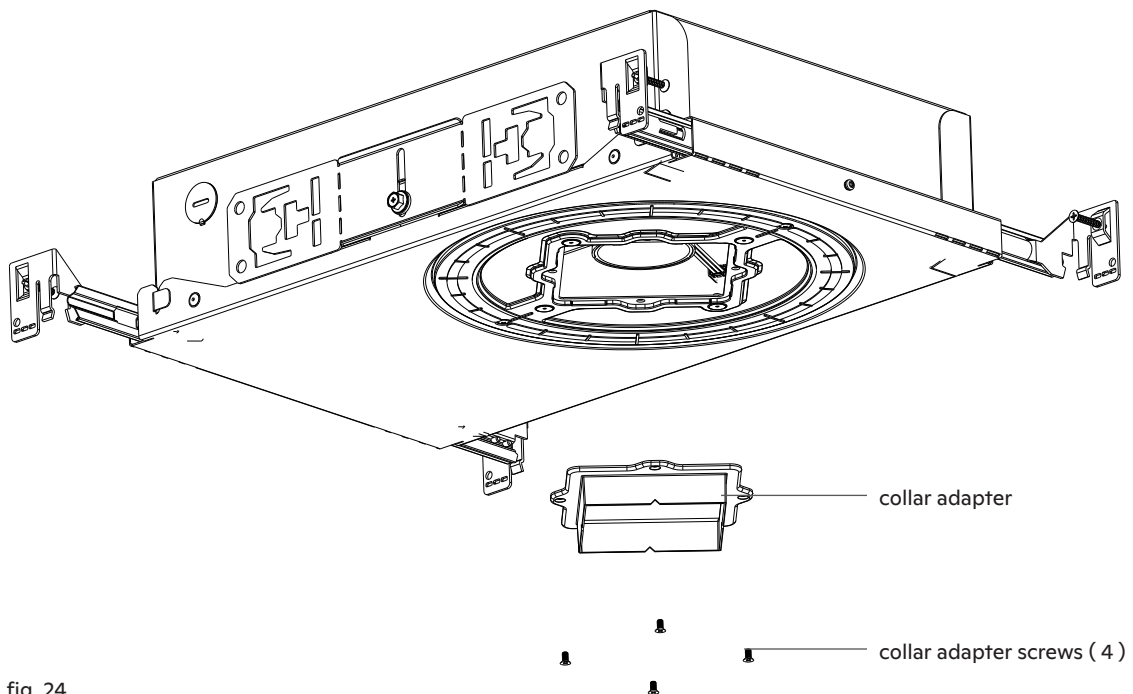

fig. 24
4. Installing or replacing the collar adapter (see fig. 24)